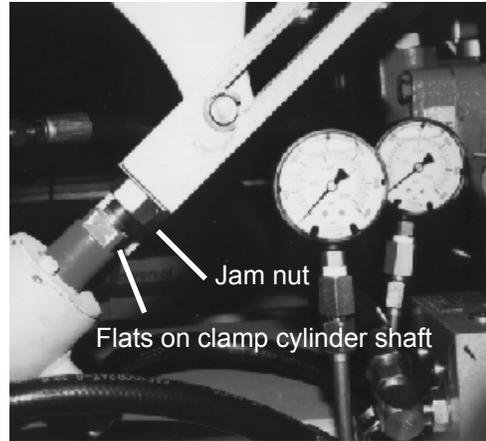

Figure 29
3. Use the flats on the clamp cylinder shaft to turn the shaft into or out of the clevis as required, (Figure 29 on page 58).